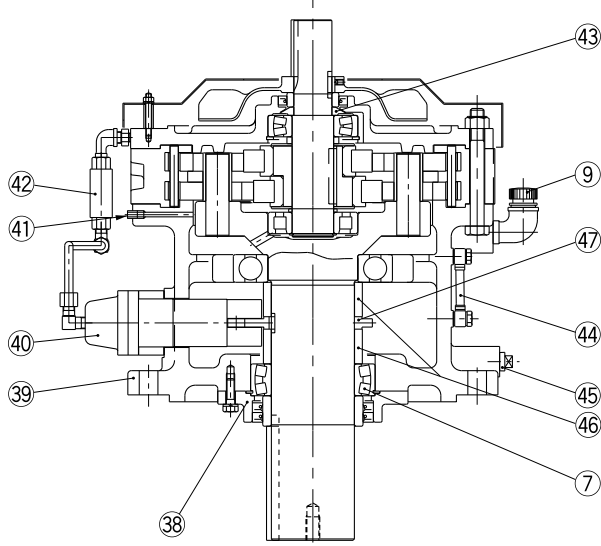

Fig. 30 Type CVV (Vertical, Reducer)
- (5) In the vertical type with a plunger pump, the roller at the extended end of the pump should be assembled so that the roller is in contact with the cam ④ (Fig. 30 on Page 31) to enable it to rotate. At that time, the position should be fixed with the UP mark on the pump at the top side (**Frame size 6205 through 6265**) or a knock pin (**Frame size 6160 through 6195**).
- (6) After assembling, confirm that there is no abnormality and testrun the unit.